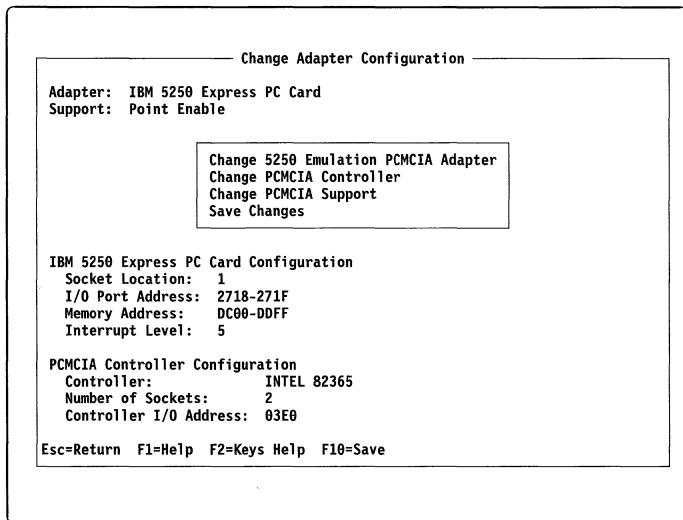

Figure 18. Change PCMCIA Support Screen
- a. From the Change Adapter Configuration screen, select the Change PCMCIA Support option. The Change PCMCIA Support screen, similar to the one shown in Figure 18, appears.